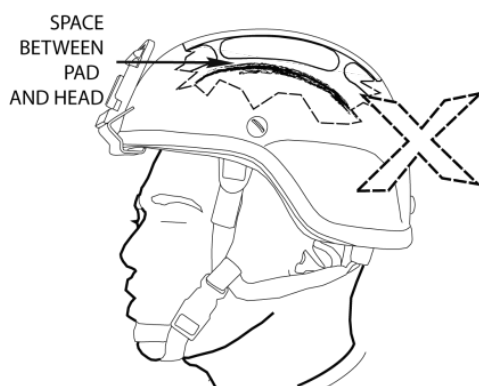

Figure 2. Helmet Too High — Crown Does Not Touch Head.
1. Evaluate whether the crown pad touches the top of the head. If the crown pad does not contact the head as shown in Figure 2, the helmet is too high.